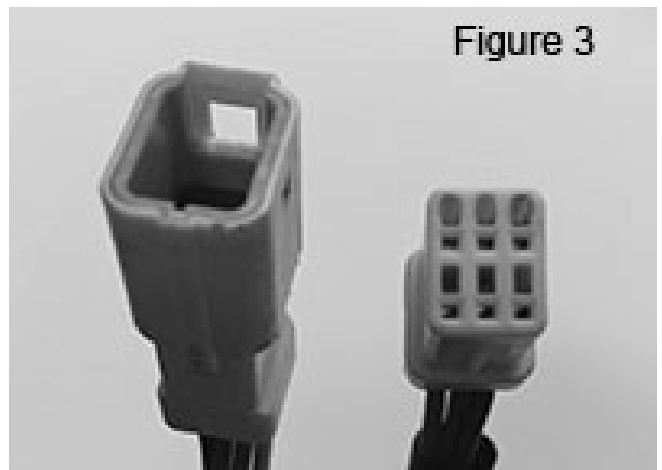

Figure 3
7. Use the supplied plug in extension to extend the wiring for the electronic throttle control (throttle-by-wire) harness. This Plug in Extension can be identified by the 6 wire male & female connectors on the ends (Figure 3) Simply plug this onto the end of the OE throttle-by-wire harness to extend the harness. This Plug in Extension can usually be connected after the throttle control has been installed into the new handlebars.